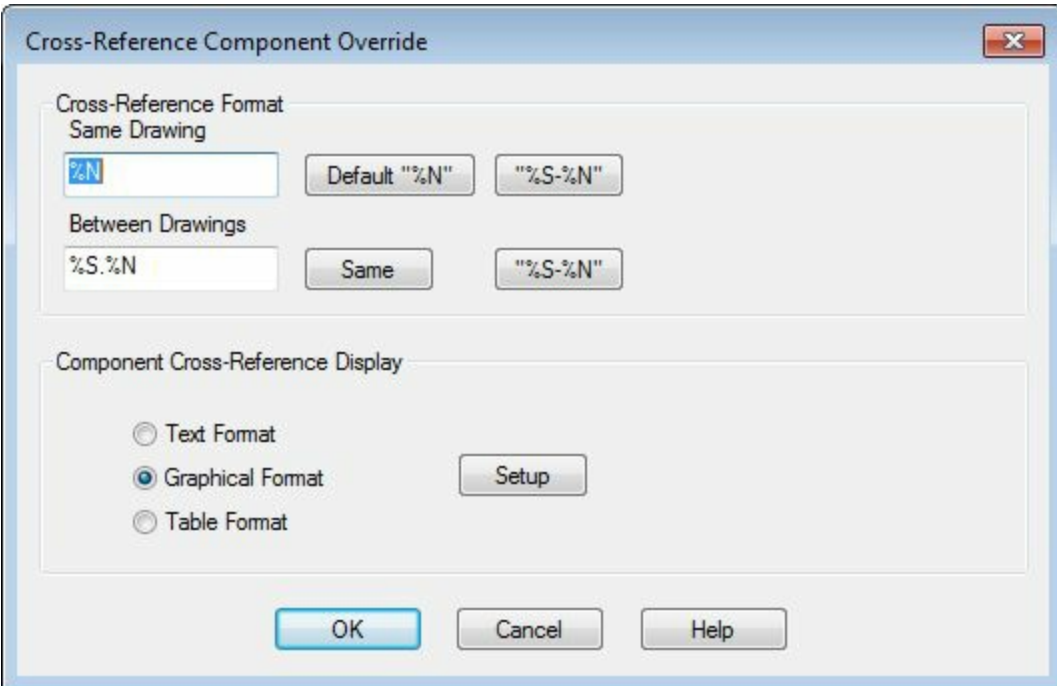

Figure-13. Cross Reference Component Override dialog box
- Click on the **Setup** button. The **Cross-Reference Component Override** dialog box will be displayed; refer to Figure-13.